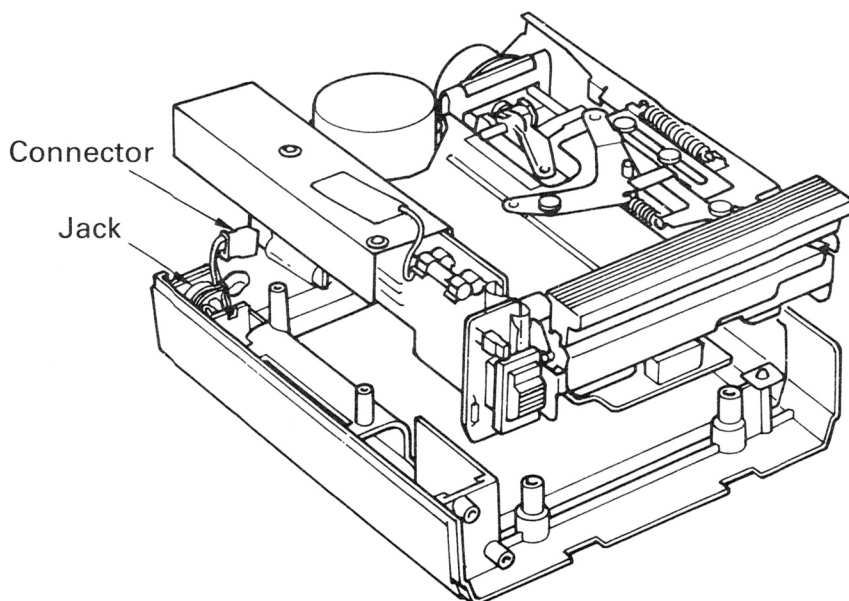

Fig. 3-4
9. Remove the connector that connects the jack and the power PCB (Fig. 3-4).